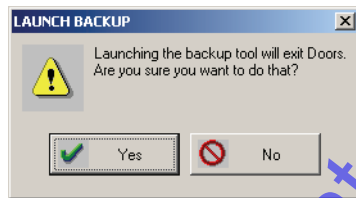

Figure 5-49: Launch Backup Confirmation
2. A Launch Backup confirmation window appears (see Figure 5-49).